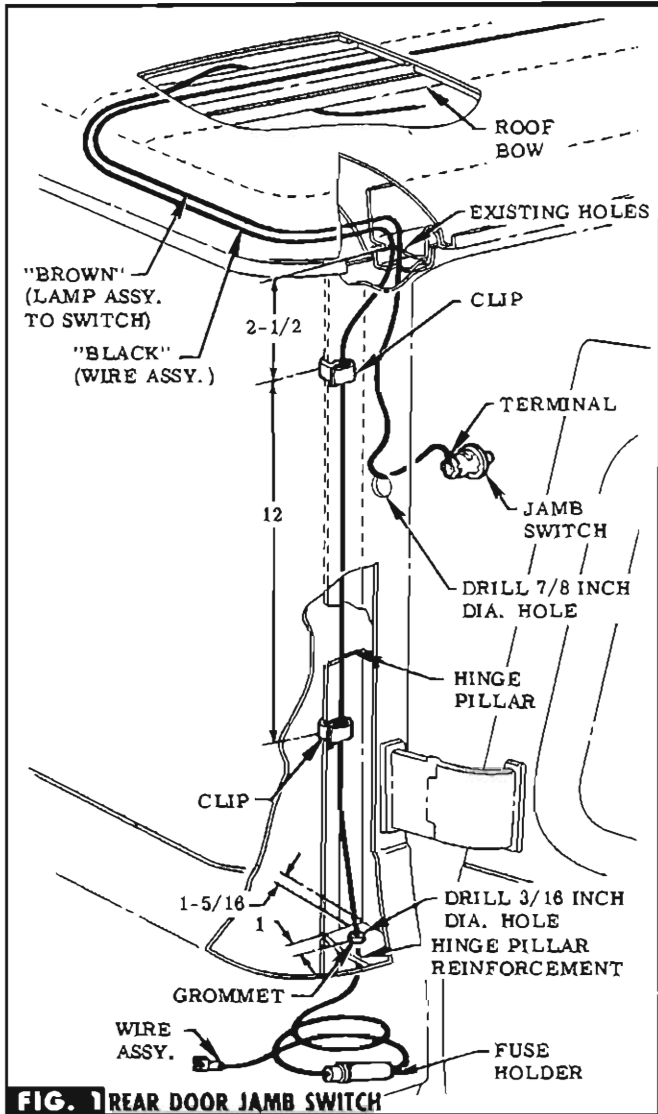

FIG. 1 REAR DOOR JAMB SWITCH
STEP 1 LOCATE, CENTER PUNCH & DRILL HOLE IN L. H. REAR DOOR HINGE PILLAR REINFORCEMENT. SEE FIG. 1. (REMOVE L. H. REAR TRIM PANEL FIRST, IF VEHICLE IS MODEL 1206).
STEP 2 PUSH BARE END OF WIRE ASSY. THRU GROMMET & SLIDE GROMMET ALONG WIRE TO A POINT APPROXIMATELY (12) INCHES FROM FUSE HOLDER. THREAD BARE END OF WIRE THRU DRILLED HOLE, FROM UNDER REINFORCEMENT, THEN CLIP WIRE TO PILLAR & ROUTE TO FRONT OF REAR ROOF BOW. SEE FIG. 1.
STEP 4 DRILL HOLES THRU EXISTING DIMPLES IN R. H. FRONT LOAD & L. H. REAR DOOR HINGE PILLARS. SEE FIG. 1 & 4.
STEP 10 PULL TERMINALS OF BROWN & GRAY WIRES OUT THRU DRILLED HOLES. INSERT THEM INTO METAL CONNECTORS ON END OF JAMB SWITCHES & PUSH SWITCHES INTO PLACE. SEE FIG. 1 & 4.